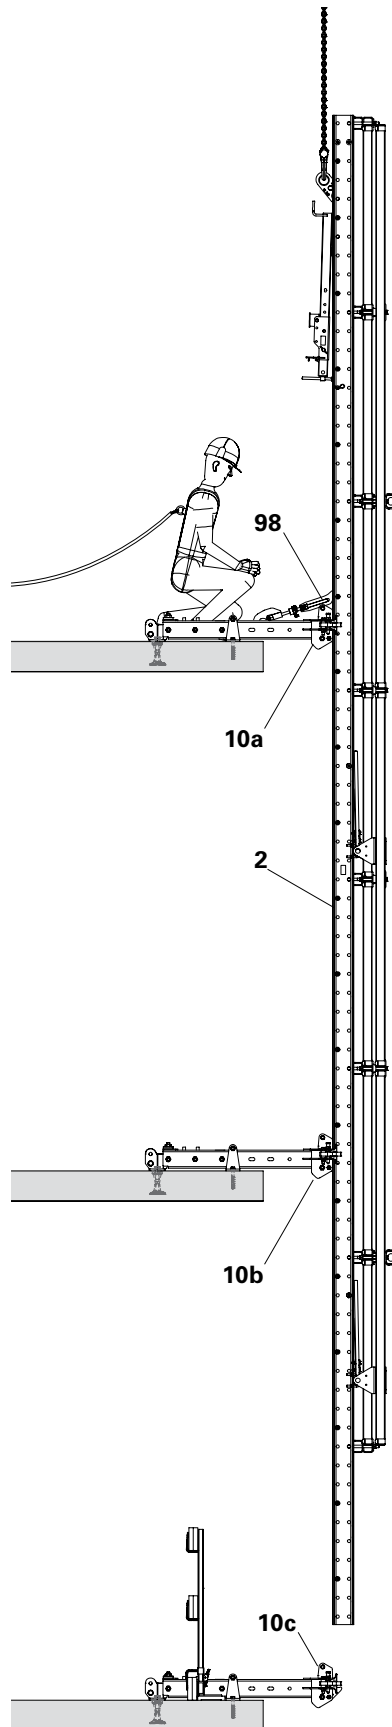

Fig. D4.03
3. Lower climbing unit until the Spacers are fully load-bearing on the climbing pawls of the middle Slab Shoe (10b). (Fig. D4.03 + D4.03a)